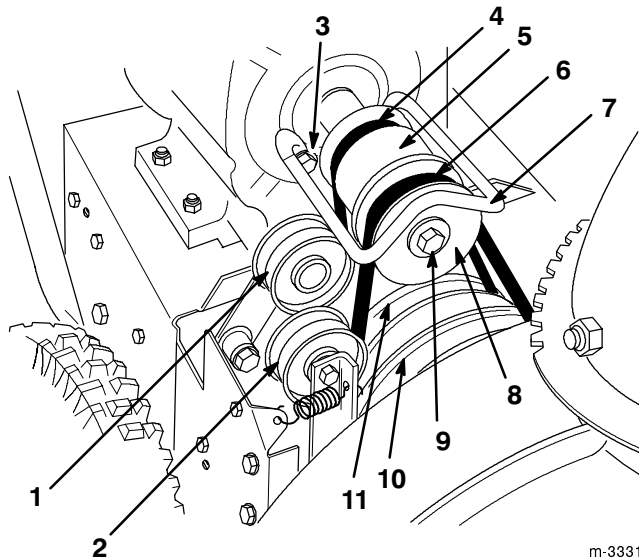

Figure 27
If the traction belt (Fig. 27) becomes worn, oil-soaked, or otherwise damaged, replace the belt. You can purchase a new belt from your Authorized Service Dealer.
- Remove two screws, two washers, and two lock washers that secure the belt guide (Fig. 27).
- Remove the engine crankshaft screw, lock washer, and washer (Fig. 27).
- Separate and remove the engine pulley sheave (Fig. 27).
- Remove the engine pulley (Fig. 27).
- Remove the traction belt from the traction pulley and the engine crankshaft (Fig. 27).
- Pull the traction idler pulley outward and install a new traction belt (Fig. 27).
- Pull the idler pulley outward and loop the auger/impeller drive belt in front of the engine pulley, making sure that the belt is on the inside of the idler pulley (Fig. 27).
5. Remove the two screws, two washers, and two lock washers that secure the belt guide (Fig. 27).
6. Remove the engine crankshaft screw, lock washer, and washer (Fig. 27).
7. Separate and remove the engine pulley sheave (Fig. 27).
8. Remove the auger/impeller drive belt (Fig. 27).
9. Pull the idler pulley outward and install a new belt around the large auger/impeller pulley (Fig. 27).
10. Loop the belt in front of the engine pulley, making sure that the belt is on the inside of the idler pulley (Fig. 27).